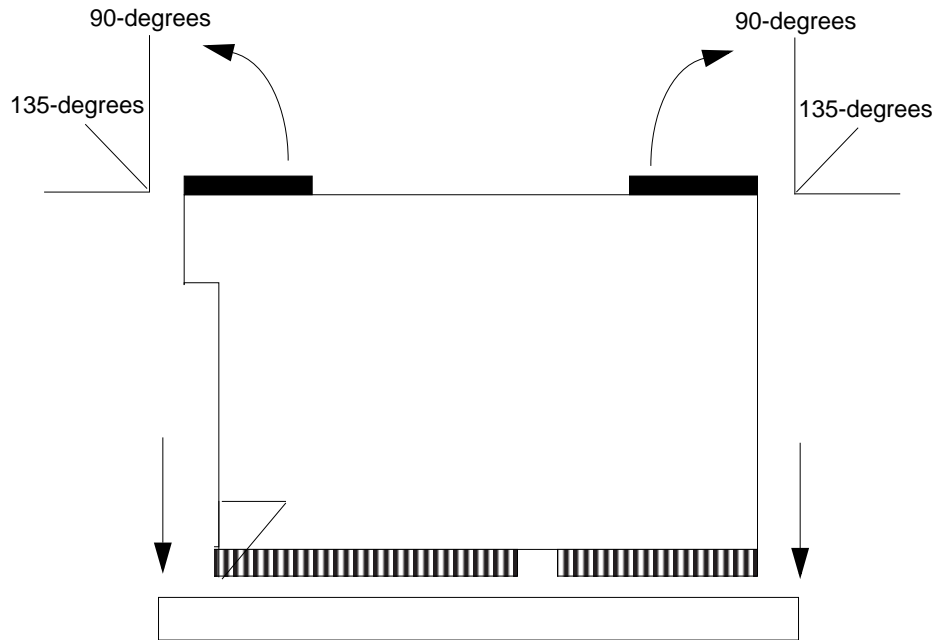

FIGURE 3-4 Lowering the Module Into the Chassis
4. On the antistatic surface, hold the module in an upright position so that the plastic surface faces you (FIGURE 3-4).